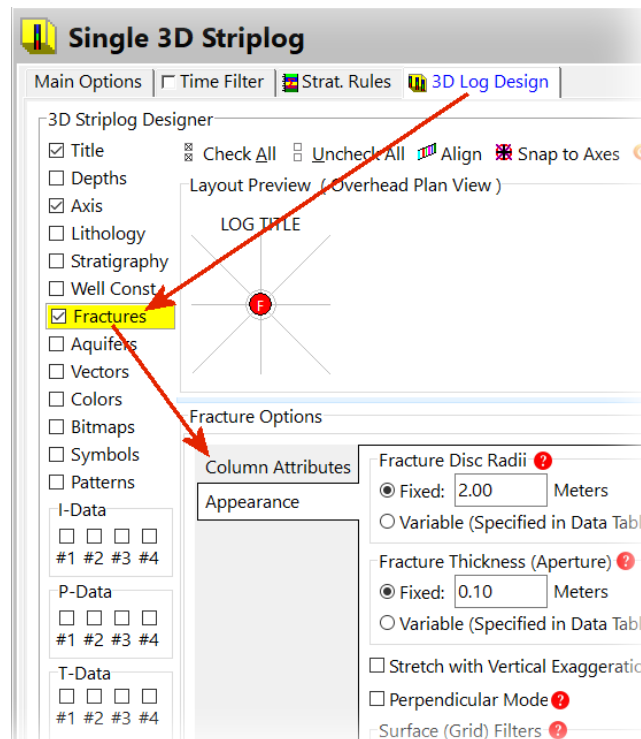

Figure 8
- Select the *3D Log Design* tab, click on the *Fractures* tab, and adjust the *Fracture Options* (Figure 8) to suit your needs. Note that all of the menu items are explained in detail by clicking of the red icons with a white question mark in the center.